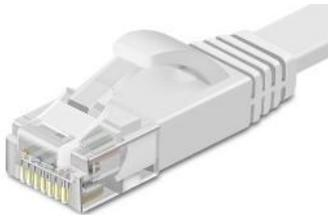

Fig. 18
1. The Galvo comes with an ethernet cable(see Fig. 18).